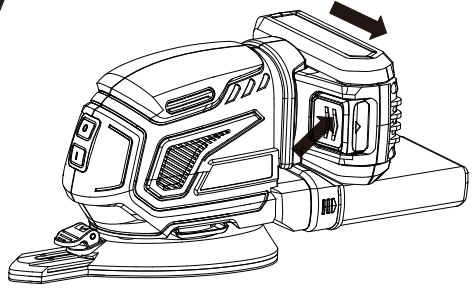

Fig. G1
3. TO REMOVE THE BATTERY PACK (SEE FIG. G1)